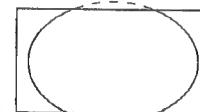

Fig. 38
- Smart: imitation of wide screen effect (16:9) for 4:3 broadcasts (See Fig. 38).